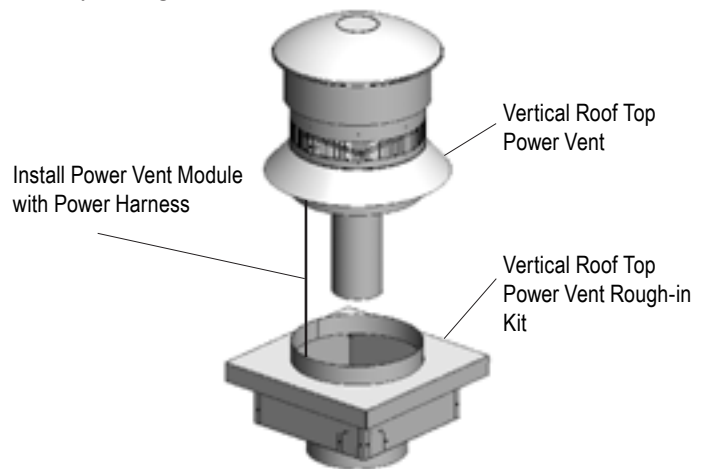

Figure 11f. Installing Power Vent module.
Step 7: Install the Power Vent module. Place the Power Vent module over the stainless steel cover flange and vent pipe. Align the Power Vent into final position. Ensure the power harness is placed down in the rough-in box. The Power Vent module will sit flush with the stainless steel cover when installed correctly, see **Figure 11f**.